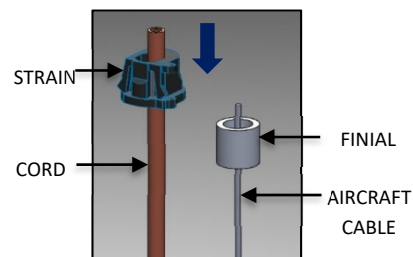

FIG. 23 - STRAIN RELIEF AND FINIAL INSTALLATION
- Pass the FINIAL and the STRAIN RELIEF through the AIRCRAFT CABLE and CORD, respectively. Adjust the STRAIN RELIEF as needed to get the desired CORD length as shown in FIG. 23 below.